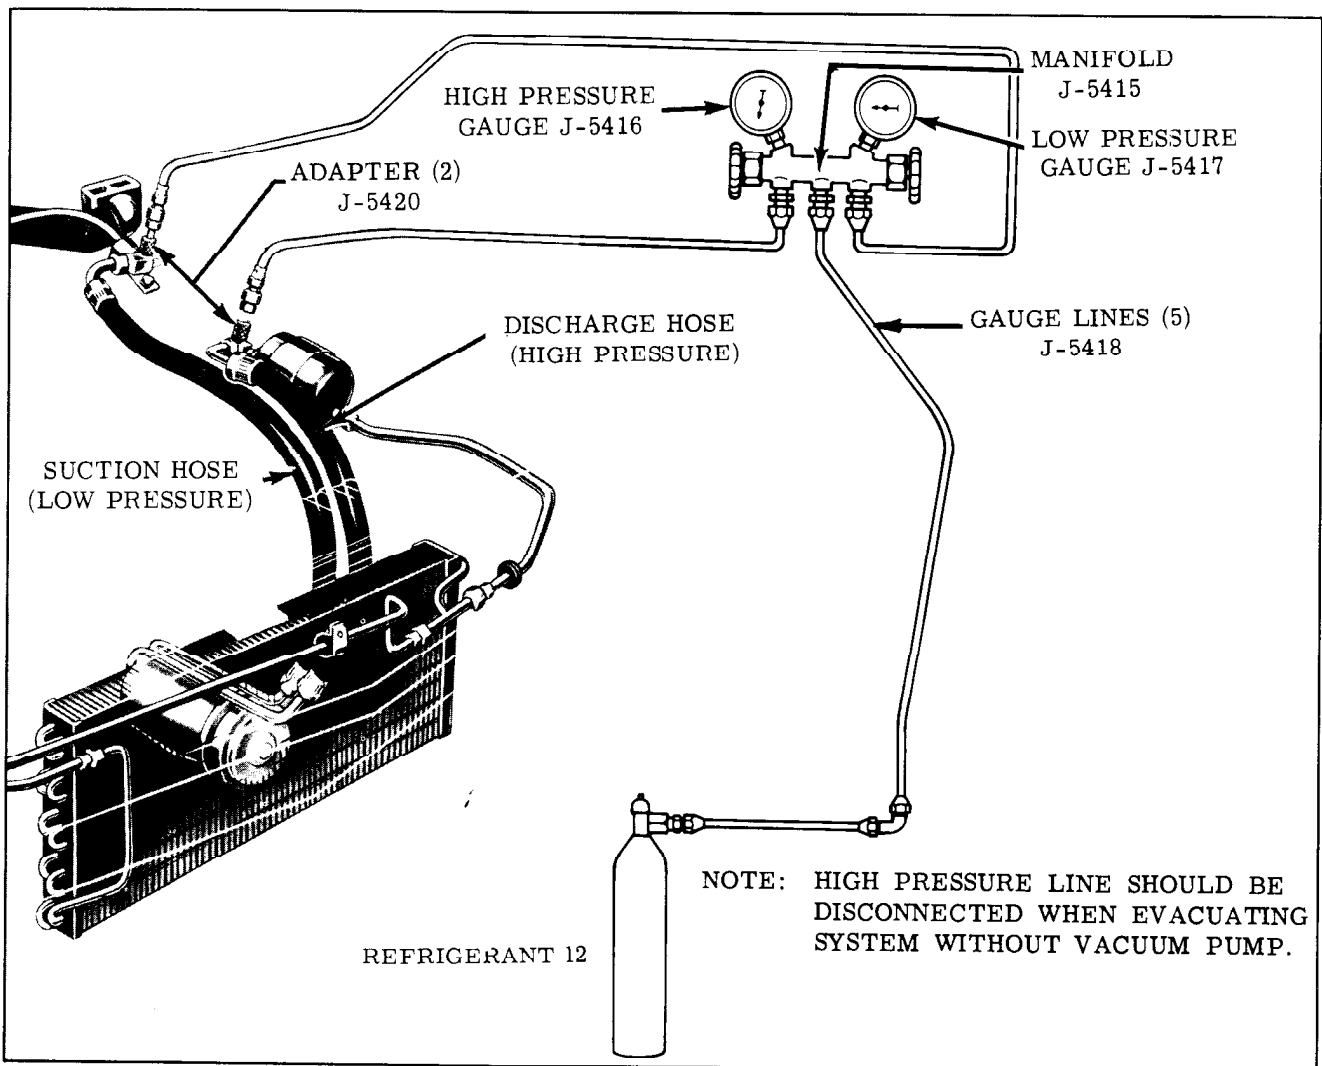

Fig. 14-42 Adding Refrigerant (Partial Charge)
3. Remove both gauge outlet fitting caps and install the gauge hoses on the fittings. (Fig. 14-42)